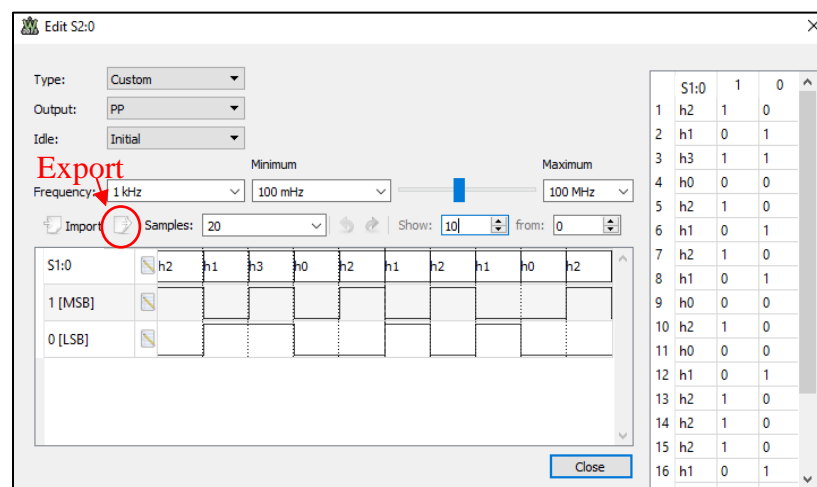

Figure 13: Setting up a Custom Bus
**Custom:** You can output values with a custom pattern. This can be very useful when you want to test only specific combinations (for example when you have don't cares or many inputs to your circuit) or you want the inputs of the circuit to change in a specific pattern or you want the Pattern Generator to match your waveform on Quartus. You can use Parameter1 to change the frequency of your pattern. Select the parameters button to make your custom pattern see Figure 13. Choose the amount of samples you want to output (the amount of values in your pattern). You can either choose one of the defaults or type in a specific number. Now choose how many samples you want to show at once. It is suggested that you choose 10 at a time. You can scroll through your values
can physically move the lines by clicking the top or bottom of the signal to make it go high to low. However, you should generally manually type in the numbers in the table. Either you can type in the full number in the first column or you can change the signal number from 0 to 1. To save a custom pattern for future use, open parameters and press the export button as seen in Figure 13 and press save. To input a custom pattern, press the input button, select your pattern, and press open.